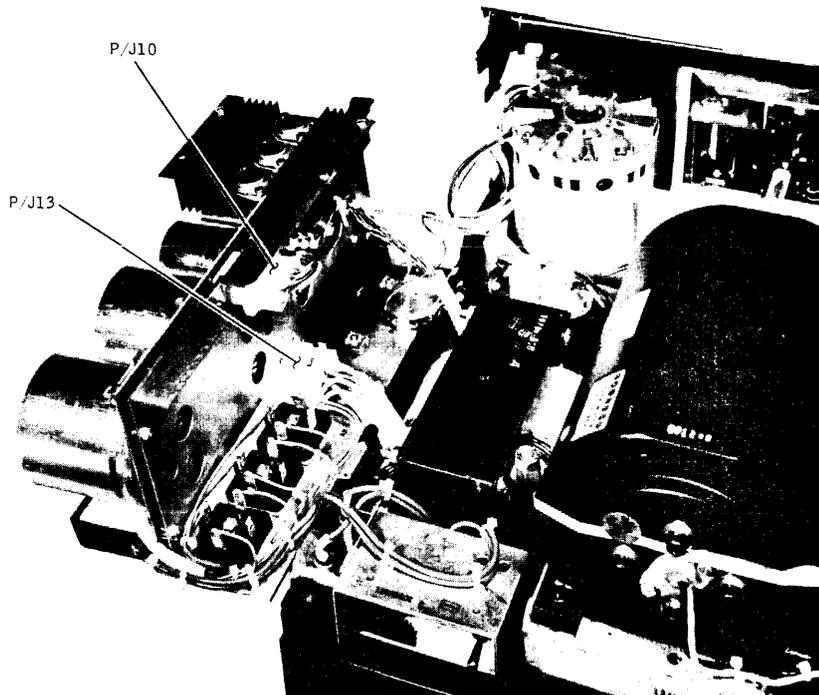

Figure 3-5. Power Supply Cable Dressing
8. To reinstall the power supply assembly, reverse this procedure. Dress all cable and wire leads as close to their original positions as possible (See Figure 3-5), and replace all plastic tie wraps clipped during removal. Also make sure that the connection from the chassis ground to logic ground is reinstalled properly and that the voltages select jumper on top of terminal board TB2 matches the assembly removed and the available voltage.